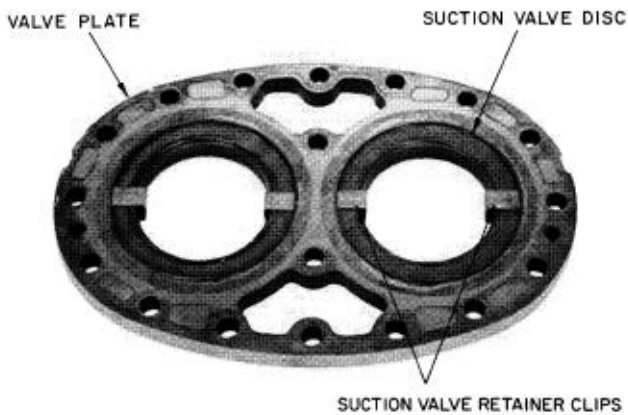

Fig. 39 — Valve Clips in Place Cylinder and Unloader Sleeves
2. Place suction valve disc on valve springs; press disc into valve plate recess. Slide valve retainer clips into place (Fig. 39). Clips must not cover valve lifter springs or pins. Valve retainer clips 5F20-2061 (5F compressors) and 5H40-2061 (5H compressors) are field supplied.